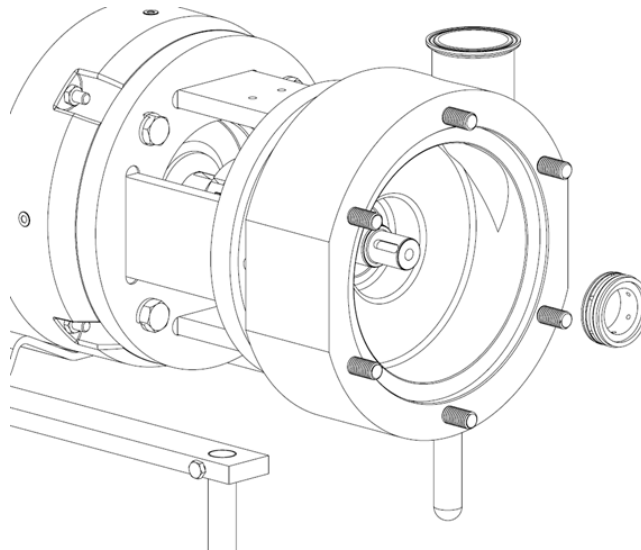

Figure 7
9. Remove the stationary seal once pushed out of its' bore, as shown in Figure 7.